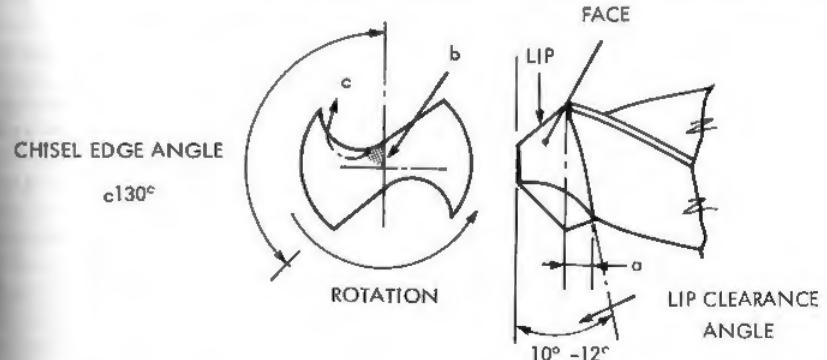

Fig. 15 Clearance angle. The arrow (c) shows the path of the chips leaving the chisel cutting edge at "b". See text.
**Clearance Angle** Fig. 15. At first sight it might seem that provided there is a clearance all would be well, the more so as the clearance measured at the periphery of the drill increases towards the centre. However, feed rates in drills can be quite high and if the clearance angle is insufficient the depth of feed during partial rotation of the drill could exceed the dimension (a) and the drill would rub. In addition, the chip cut by the chisel edge, shown shaded at (b), has no route of escape except along the
arrow (c). If the lip clearance angle is too small then these chips will be wedged, will probably weld to the drill face, and the point will be damaged. For general purposes the clearance angle, measured at the periphery of the drill, should be from  $10^\circ$  to  $12^\circ$  – though again, it may be desirable to alter this for some materials. The chisel edge angle shown in Fig. 15 should be about  $130^\circ$ , and this angle is a good indicator that the drill has been correctly ground.